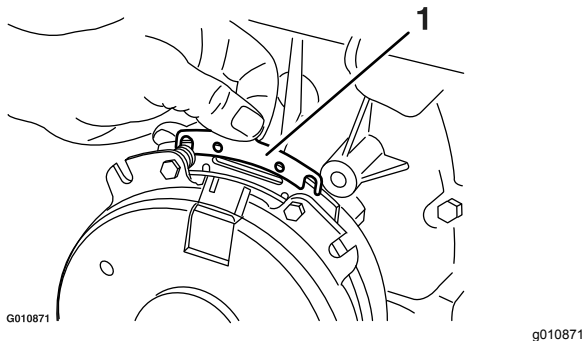

**Figure 74**
- A. Loosen both brake-mounting bolts 1/2 to 1 full turn as shown in Figure 74.